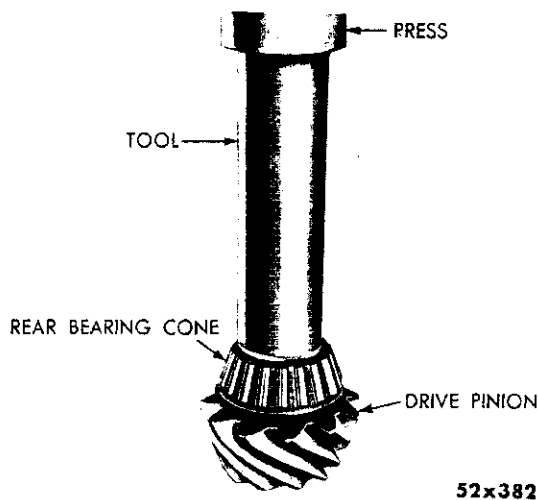
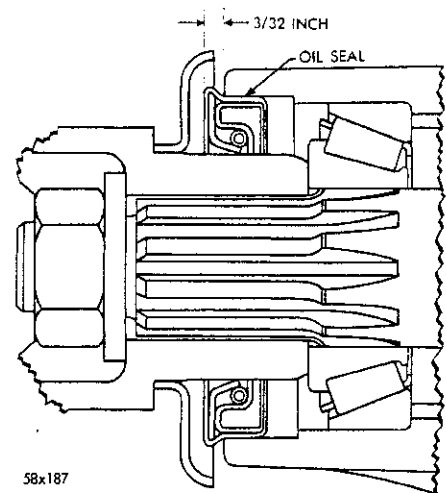

Fig. 24—Installing Bearing on Pinion Shaft
Fig. 25—Pinion Oil Seal Installation
(8) With the shaft end of pinion facing up, install the selected correct pinion spacer washer on the pinion gear shaft. These washers have a chamfer on one side. **The chamfer must face the pinion head.**
(9) Position the rear bearing cone on the pinion shaft (small end away from the pinion gear). Make certain that the contacting surfaces of the correct washer, pinion gear, and rear bearing cone are perfectly clean and free of any foreign particles.
(10) Install the rear bearing cone onto the pinion shaft with Tool DD-996. An arbor press may be used in conjunction with the tool (Fig. 24).
(11) Install the bearing tubular spacer on the pinion shaft (large bore facing the rear bearing).
(12) Install the selected shim pack.
(13) Lubricate the front and rear pinion shaft bearing cones with heavy oil.
(14) Install the front bearing in its cup in the carrier.
(15) Install the oil seal to the carrier with driver Tool C-3656 lip of seal must face the front bearing. The seal must be driven into the carrier until the Tool bottoms against the front pinion bearing cone. (Fig. 25.)